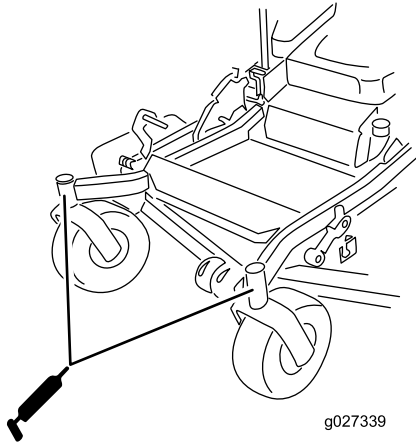

Figure 45
10. Install the hex plug and dust cap (Figure 45).